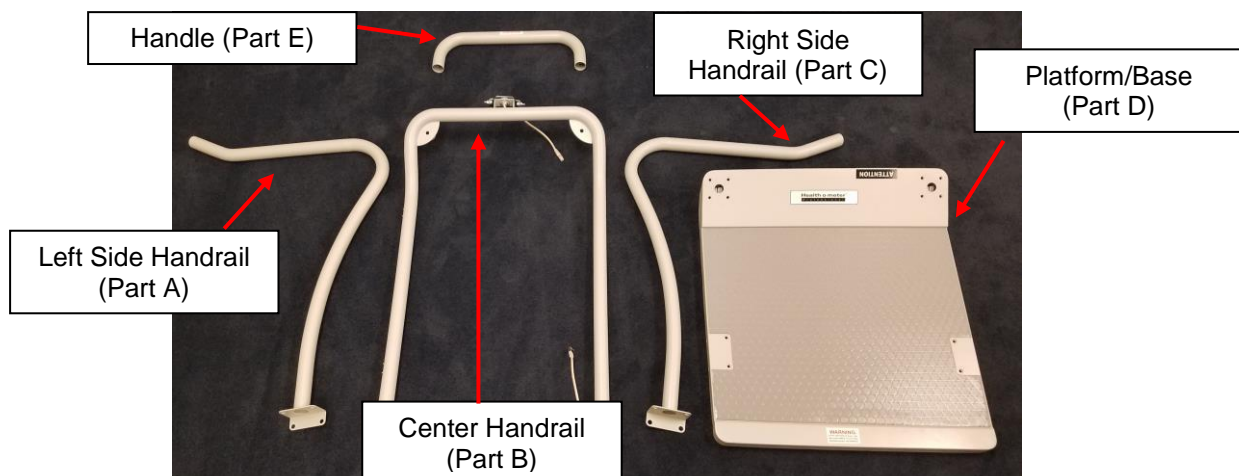

Figure 1 – Scale Parts
1. Remove the scale platform/base (part D, see Figure 1 on page 6) from the carton and place on a flat, level, and dry surface. Locate the center handrail (part B) and the load cell cable protruding from the bottom of the right side. Feed the load cell cable into the large center hole of the right handrail mounting hole in the scale base.